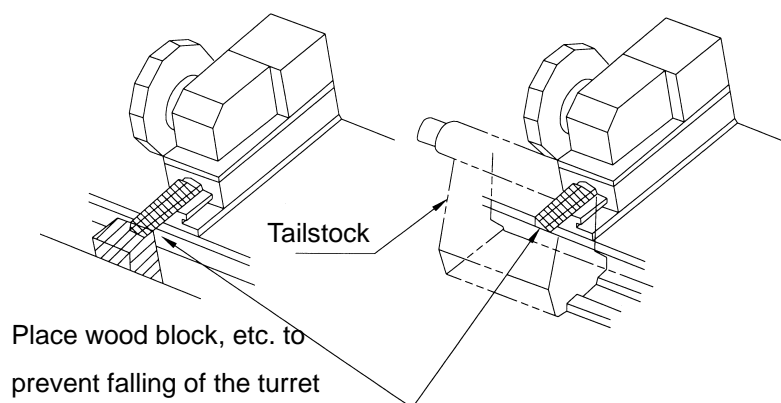

Fig. 4-12 Caution on Checking the X-axis Ball Screw
If the turret inclination amount measured as per Fig. 4-12 is larger than 0.02 mm (0.0008 in.), adjustment should be made in the manner indicated below (Refer to Fig. 4-15.):
- 1) Remove covers (1), (2) and (6).
- 2) Loosen four turret clamping screws (3). Note that turret clamping screws (4) and (5) should not be loosened.
- 3) After loosening four turret clamping screws (4) and (5) satisfactorily, check turret inclination as in Fig. 4-12 while tapping the turret with a soft head hammer.
- 4) When the inclination of the turret is adjusted within the allowable range, secure the turret clamping screws (3), (4), and (5).
- 5) Install the covers (1), (2) and (6). Apply the sealant to the cover mounting surfaces.